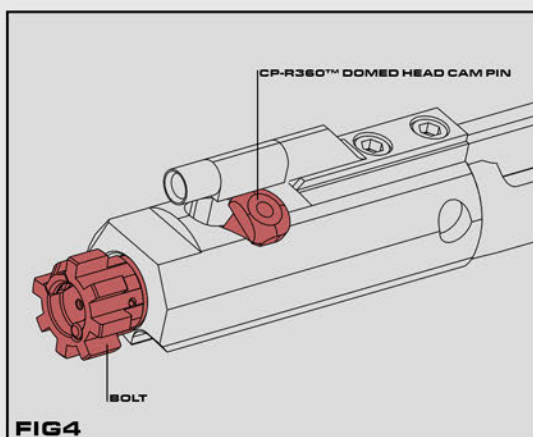

FIG4
4. SLIDE THE BOLT INTO THE CARRIER AND TWIST INTO POSITION, ALIGN THE CAM PIN HOLE WITH THE SLOT IN THE CARRIER. INSERT THE CAM PIN WITH THE FLAT FACE POINTING TOWARDS THE GAS KEY. THEN ROTATE THE CAM PIN 90° SO THAT THE FLAT FACE POINTS TOWARDS THE BOLT LUGS. IF THE CAM PIN WILL NOT FIT THEN ROTATE THE BOLT 180° AND TRY AGAIN, FIG4.